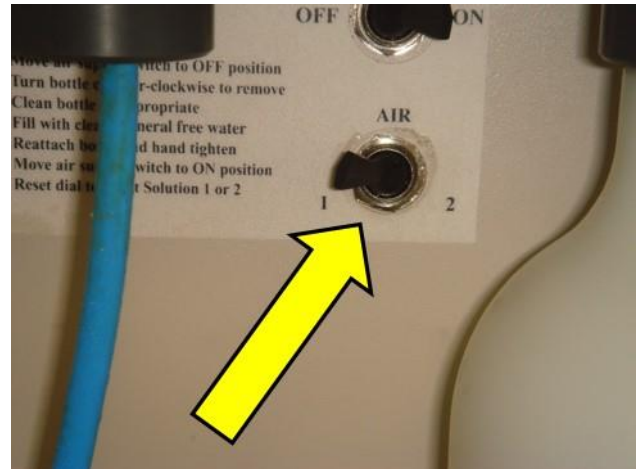

Fig. 6
10. Place the valve back through hole in the bracket and tighten nut. (Fig. 6)